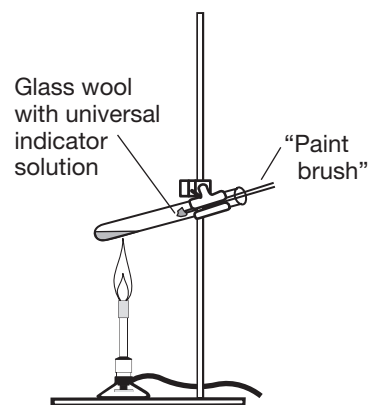

Figure 3.
- Carefully insert the end with the universal indicator into the mouth of the test tube (see Figure 3). See if you can observe a distinct color change. If a metal oxide such as K_2O , Na_2O or MgO is being produced, it will create a basic solution and turn the indicator solution blue. If a nonmetal oxide like NO_2 , SO_3 or CO_2 is being produced, it will create an acidic solution and turn the drop yellow or even orange. Answer Questions 1–3.